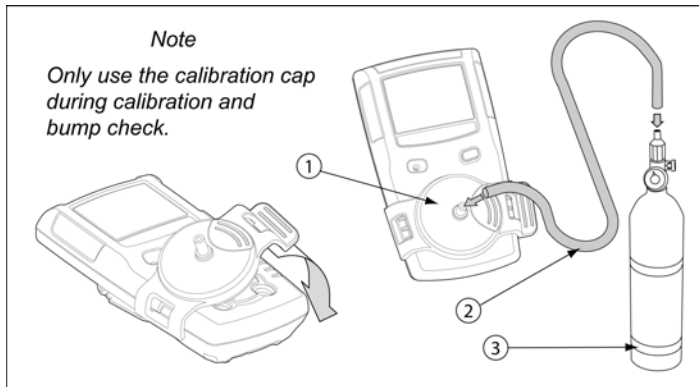

Figure 8. Connecting the Gas Cylinder to the Detector
Refer to the following Figure 8, Table 11, and procedures to connect the gas cylinder to the detector for calibration.
- Attach the calibration cap to the detector. Refer to Figure 8. Open the valve on the regulator and apply gas at a flow rate of 250-500 ml/min.